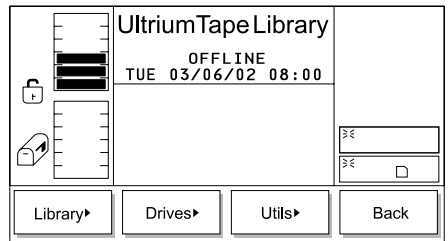

Figure 236. Setup Menu
2. Press the button below the **Setup** softkey. The Setup Menu displays (see Figure 236).